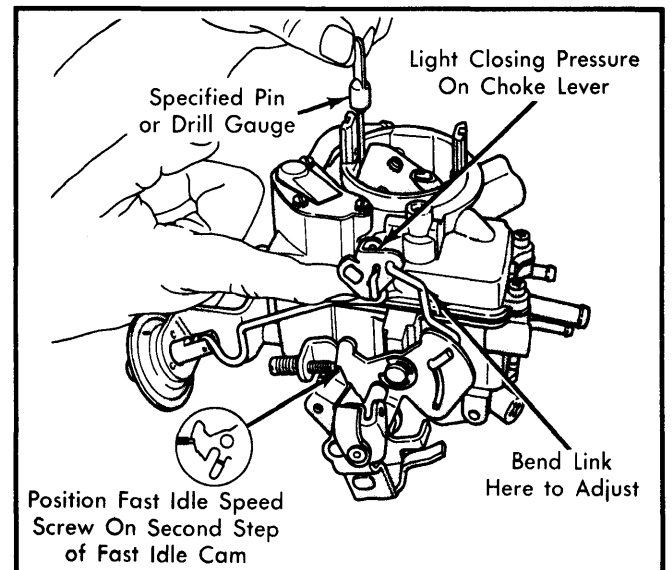

Fig. 3 Adjusting Fast Idle Cam Position
1) Position fast idle speed screw on second step of fast idle cam. Apply light finger pressure on choke shaft lever to close choke valve. See Fig. 3.